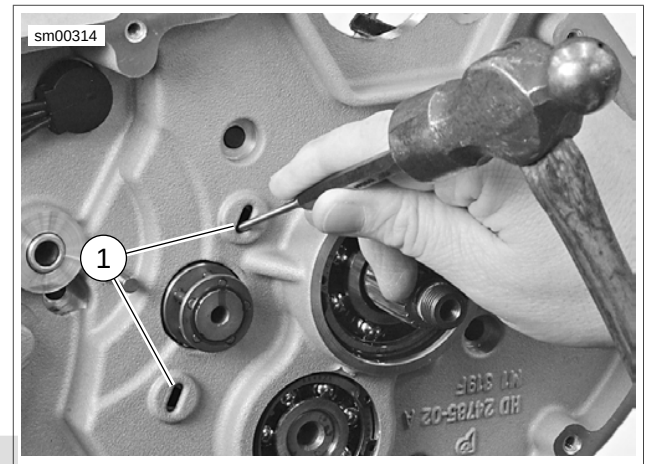

Figure 6-56. Slots for Removing Shifter Fork Shafts
1. See Figure 6-56. Remove shifter fork shafts by inserting a small flat punch in the slots and tapping on the end of each shaft until it falls free.